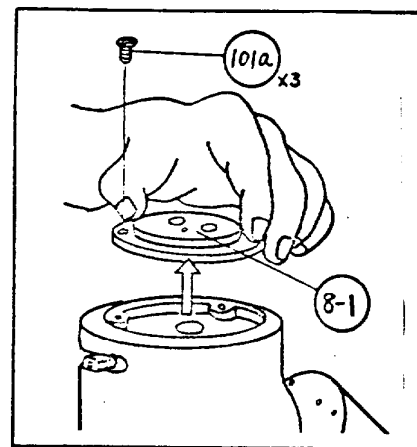

Fig. 12
10) Unscrewing the screws (101a)  $\times 3$ , remove the round dovetail mount (8-1) (Fig. 12).